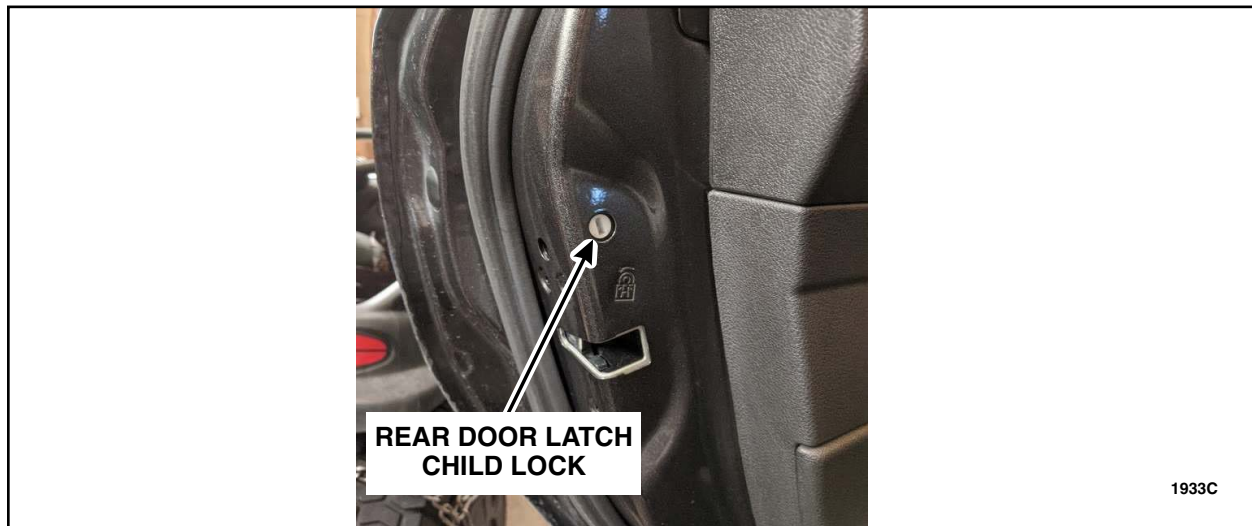

FIGURE 9
3. When repairs are complete, verify the presence of a child lock in each of the rear door latches. See Figure 9.